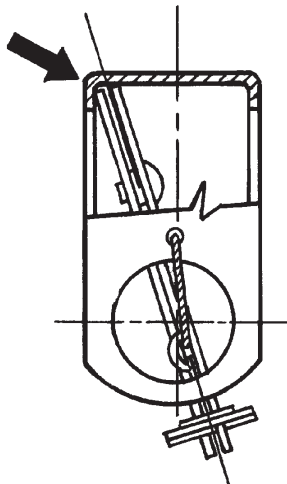

FIGURE 5-31
9. Install the linkage and the correct ANSUL® approved fusible link in the remainder of the detector brackets. Make certain all detector linkages are positioned against either the front or back upper lip of the formed detector bracket. See Figure 5-31.